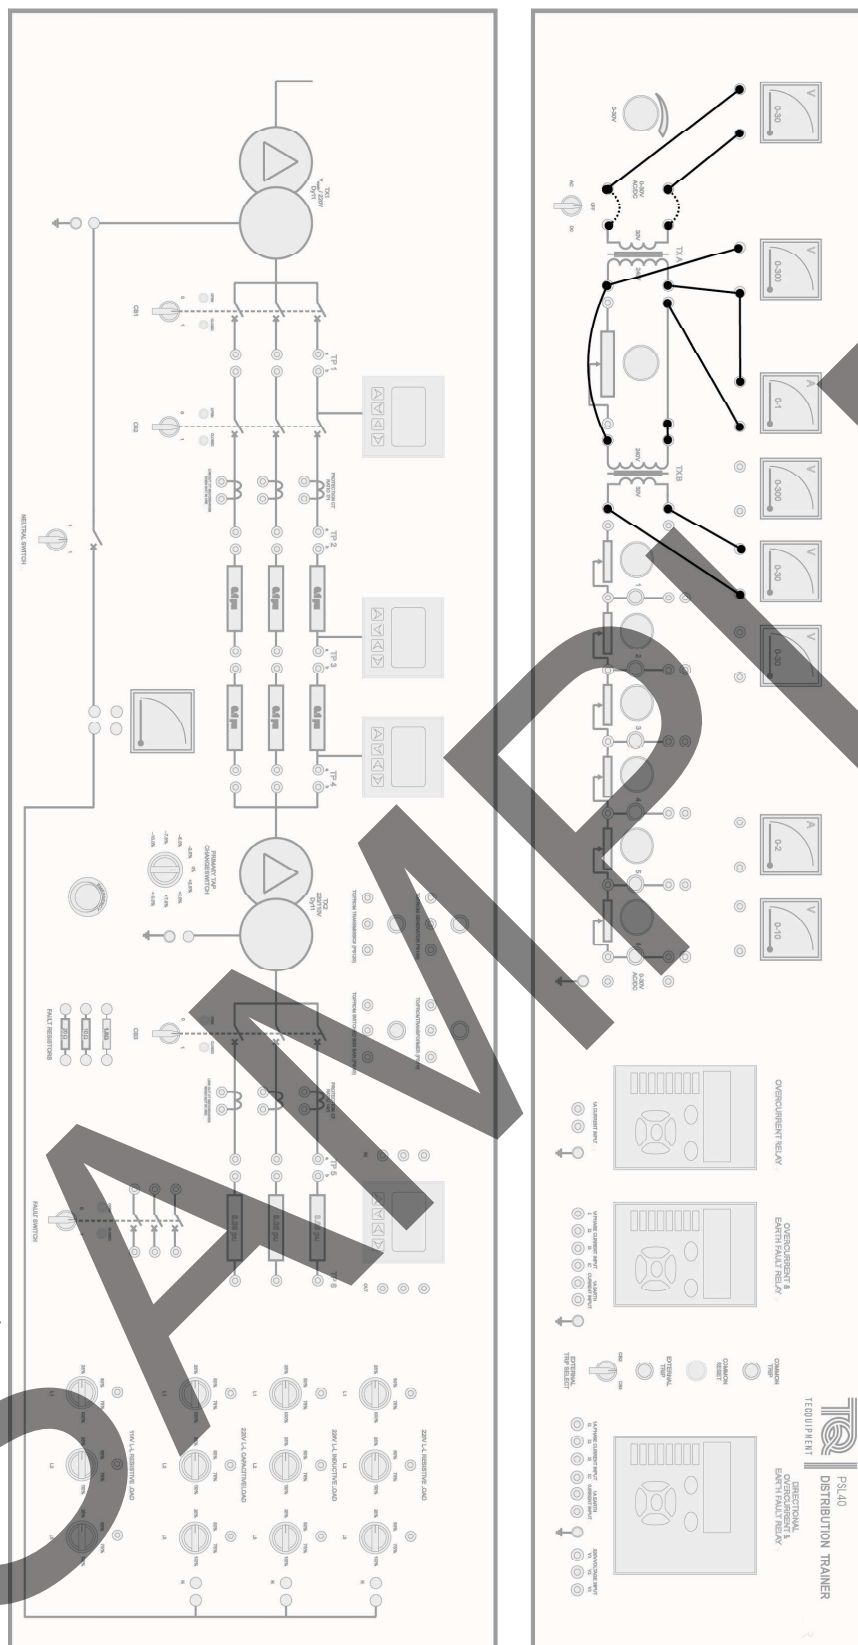

Figure 14 Connections for Experiment 1 - Procedure A and B
- 1) On the single-phase section of the Trainer, connect the 30 V voltmeter across the 0 to 30 V a.c./d.c. power supply terminals as shown in Figure 14. Leave the rest of the circuit unconnected.
- 1) Turn the 0 to 30 V supply to minimum. As shown by the dotted lines in Figure 14, connect the 0 to 30 V a.c./d.c. supply to the primary terminal of Transformer A leaving the terminals of Transformer B open (but connected to a voltmeter). Put the 0 to 30 V switch to the a.c. position.